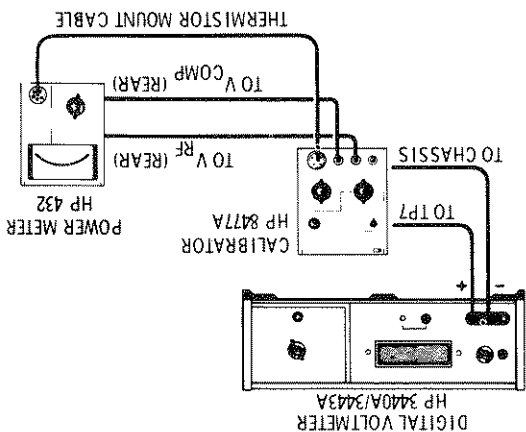

Figure 5. SET and CHECK Function Test Setup
a. This check verifies that the 8477A is operating properly in the SET and CHECK functions. Connect the equipment as shown in Figure 5. Set the instrument controls as follows: